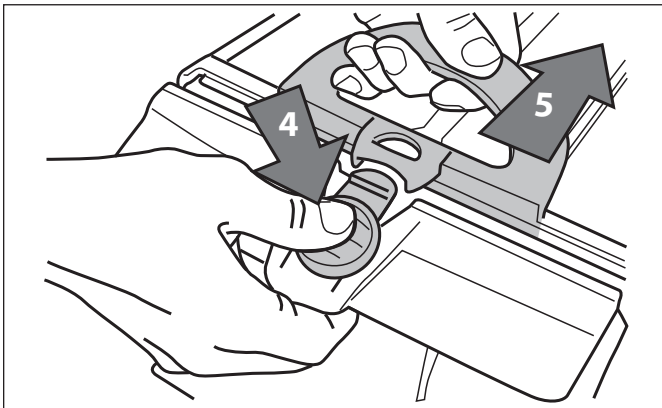

Figure 25. Open Filter Assembly
- Push the quick release button on the canister assembly (4) and pull open the filter assembly (5). Refer to Figure 25.